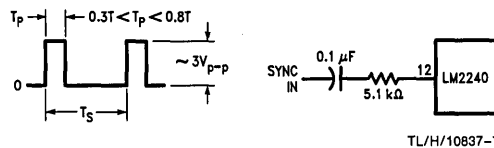

FIGURE 4. Operation with External Sync Signal
The oscillator time-base period (T) can be modulated by applying a DC voltage to MOD, pin 12 (see Performance Curves). Also, the time-base oscillator can be synchronized to an external clock by applying a sync pulse to MOD, pin 12 as shown in *Figure 4*. Recommended sync pulse widths and amplitudes are also given.